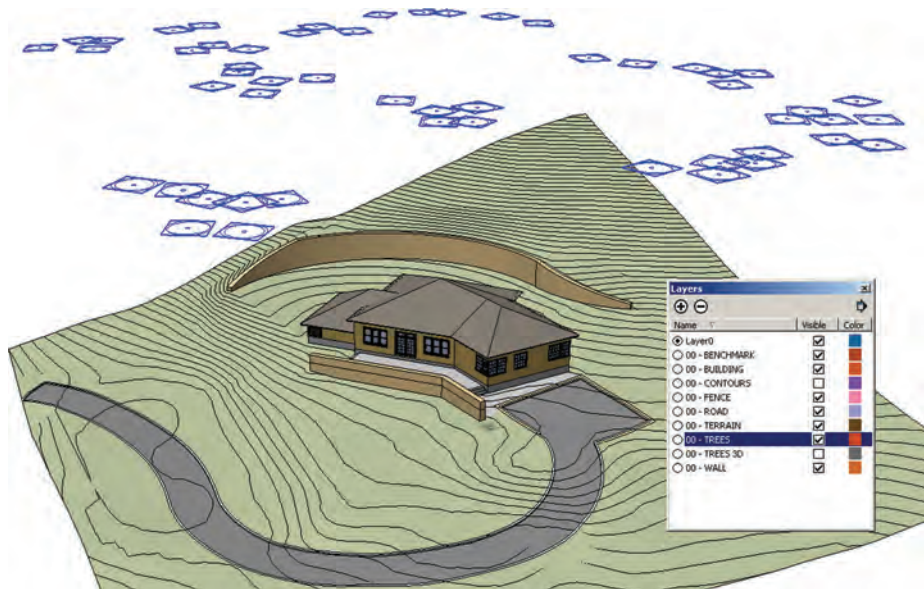

Fig. 15-34: Turn on and select the CAD Tree blocks.
1. Turn on and select the CAD Tree blocks (Fig. 15-34).